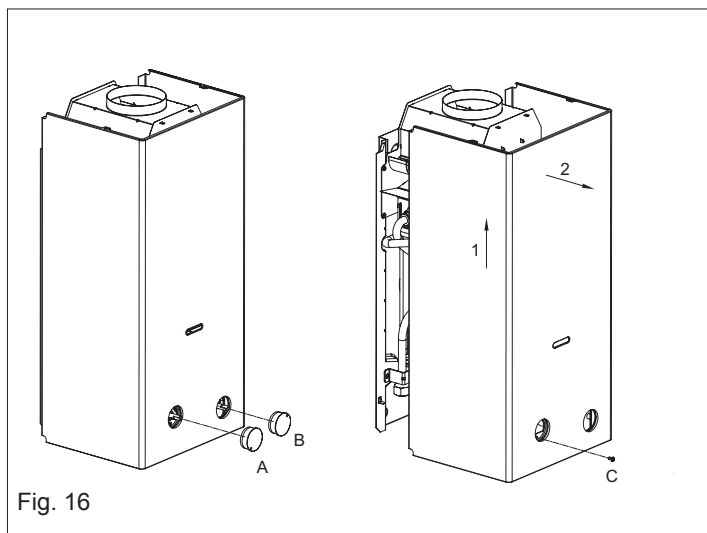

Fig. 16
4.a Removing the casing (Fig. 16)